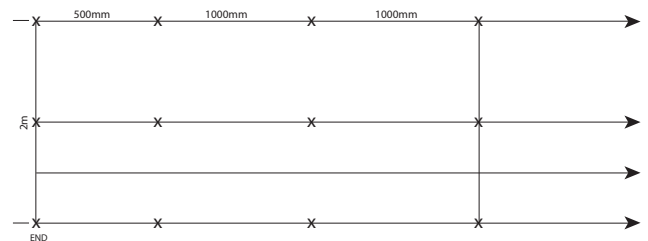

FIGURE 1
Step 3: Follow recommended fixing spacing in Figure 1 and fix in all required locations. Partially secured sections of sheeting during installation must be kept to a minimum in case of any unexpected wind gusts.